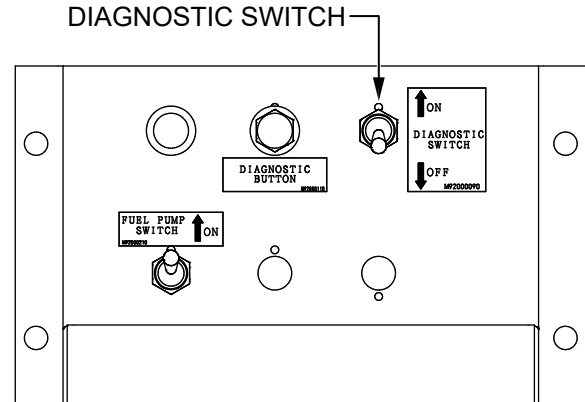

Figure 43. Diagnostic Switch (OFF Position)
3. Make sure the **Diagnostic switch** (located inside the control box) is placed in the **OFF** position. See Figure 43. Make sure the control panel is closed properly before proceeding.